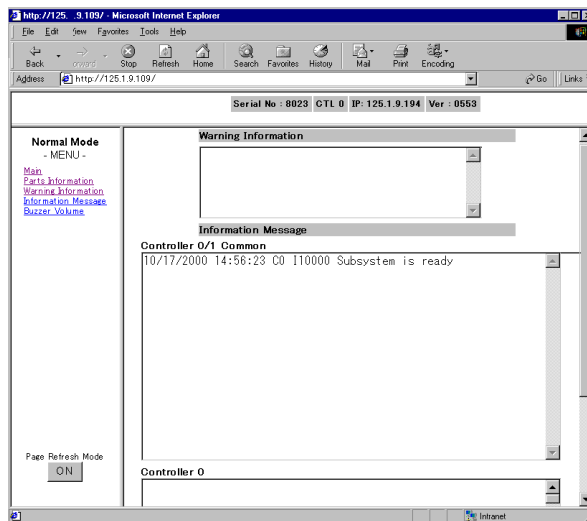

Figure 5.27 WEB Screen (25)
- When checking the status of a component through a message, a clicking on the ‘Warning Information’ of the menu frame in the main window changes the window to the one shown figure 5.27 and a detailed message explaining the component status is displayed.